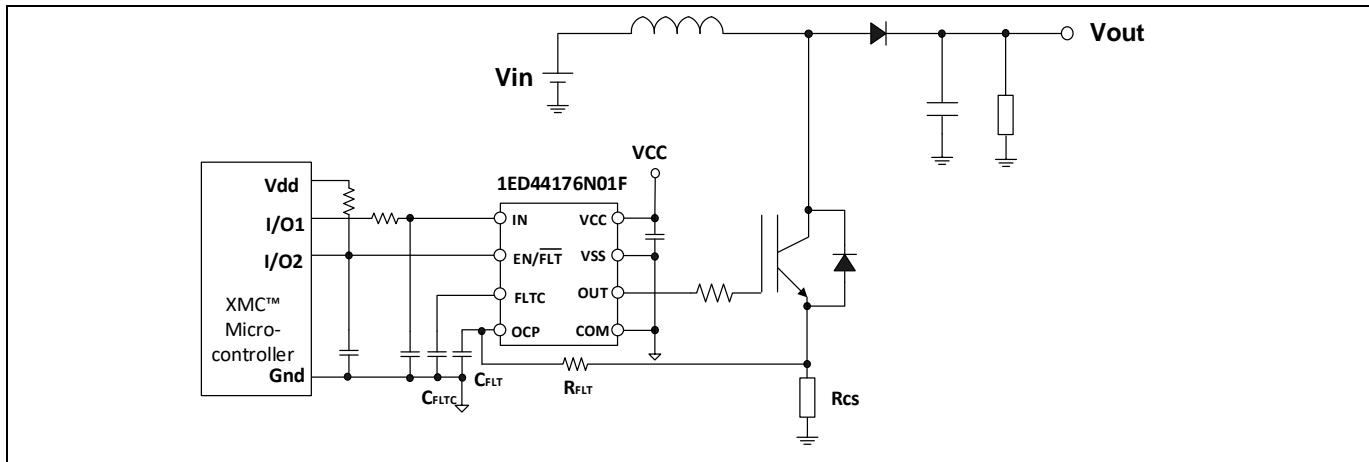

Figure 5 Application circuit example of active power factor correction (APFC) with R_{CS} for OCP
- The R_{CS} should be connected between the pin (emitter of low-side IGBT or source of low-side MOSFET) and the power ground to detect short-circuit current (refer to Figure 5). An RC filter needs to be connected between the shunt resistor and the OCP pin if the internal blanking time is not enough to eliminate the noise.
Figure 5 shows a typical application circuit of 1ED44176N01F for the interface schematic with control signals connected directly to a XMC™ µC.